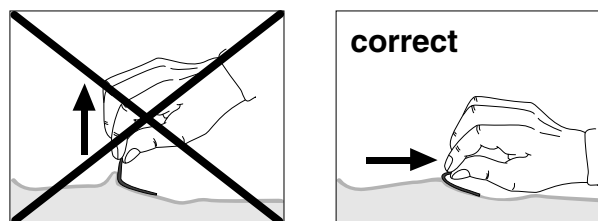

Figure 4-8. Removing the pads
- Carefully remove the pads from the patient's skin (Figure 4-8) and discard them immediately (hospital waste) to prevent that they are reused.